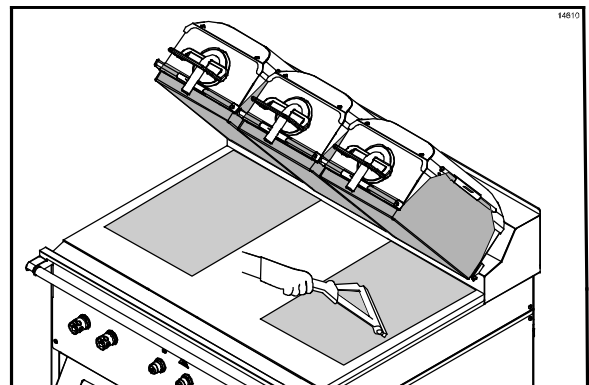

Figure 76
51. Repeat the last two steps for the release sheet on the other side of the grill. (See Figure 76.)